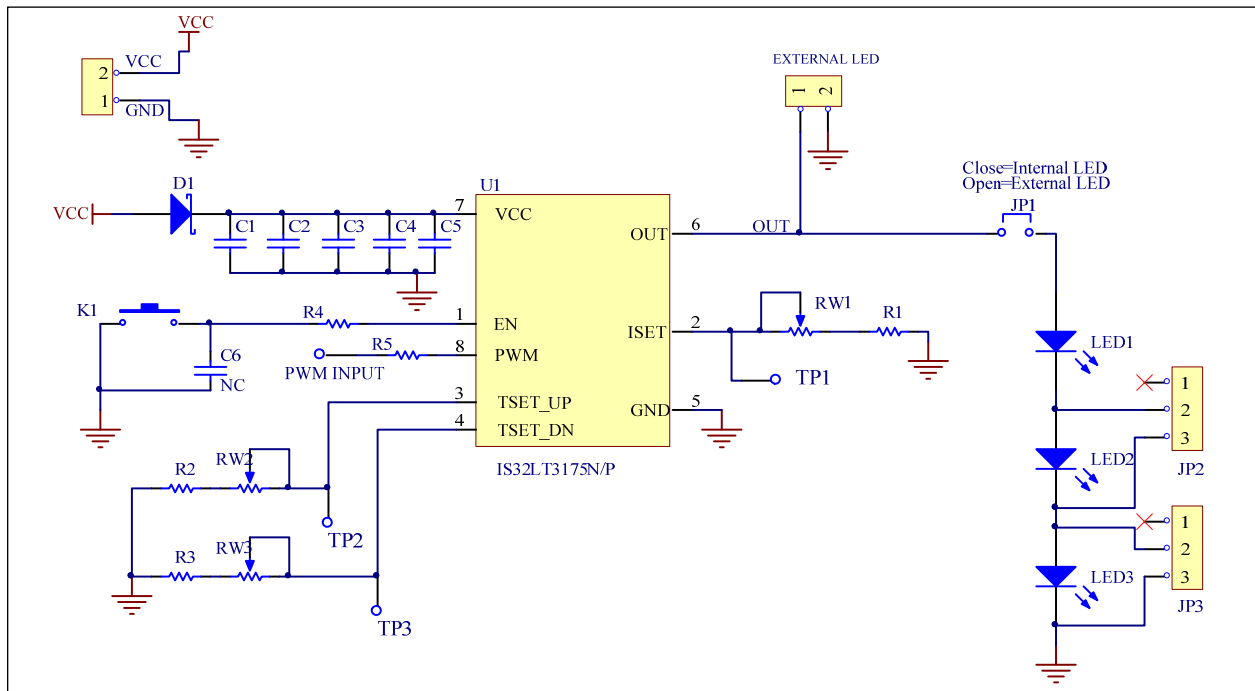

Figure 2: IS32LT3175N/P Application Schematic
with an ohm meter across TP1 and GND pins. Use this measured resistor value to replace the variable resistor RW1 and R1 (see schematic Figure 2).
- 3) The fade in time is adjusted by the variable resistor (RW2). Turn RW2 counter clockwise to decrease fade in time, and clockwise to increase fade in time. Once the desired fade in time is set, measure the resistor value across TP2 and GND. Use this measured resistor value to replace the variable resistor RW2 and R2 (see schematic Figure 2).
- 4) The fade out time is adjusted by the variable resistor (RW3). Turn RW3 counter clockwise to decrease fade out time, and clockwise to increase fade out time. Once the desired fade out time is set, measure the resistor value across TP3 and GND. Use this measured resistor value to replace the variable resistor RW3 and R3 (see schematic Figure 2).
Bill of materials, refer to Figure 2 above.